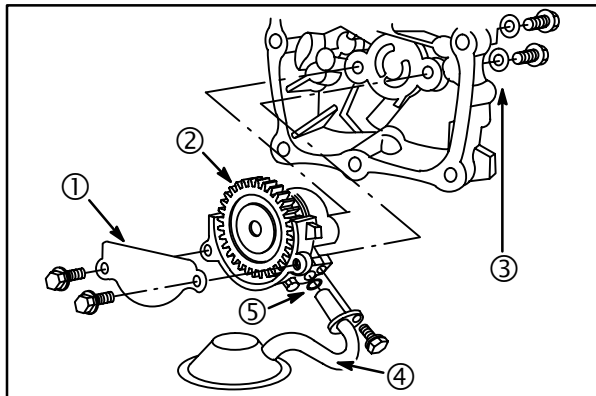

**Fig. 5**
3. Align timing marks on camshaft and crankshaft timing gear. Install camshaft, **Fig. 5**.
4. Assemble governor spool (2) to camshaft (except Models **540000, 610000**).
- a. Install new O-ring (3) in cylinder.
- b. Make sure that spool engages flyweights and slot on spool fits over locating pin (1).